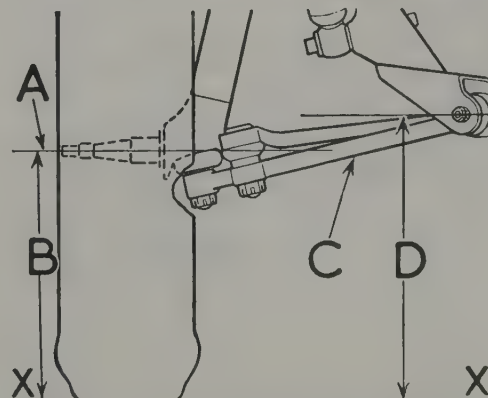

Fig. 11.12. Front suspension height setting diagram (Three thousand five)
- 4 The dimensions given in Figs. 11.12 or 11.13 are based upon a hub centre to tyre tread surface dimension (wheel radius) of 11.593 in (294.0 mm). This should be the case when the tyre is in good condition.